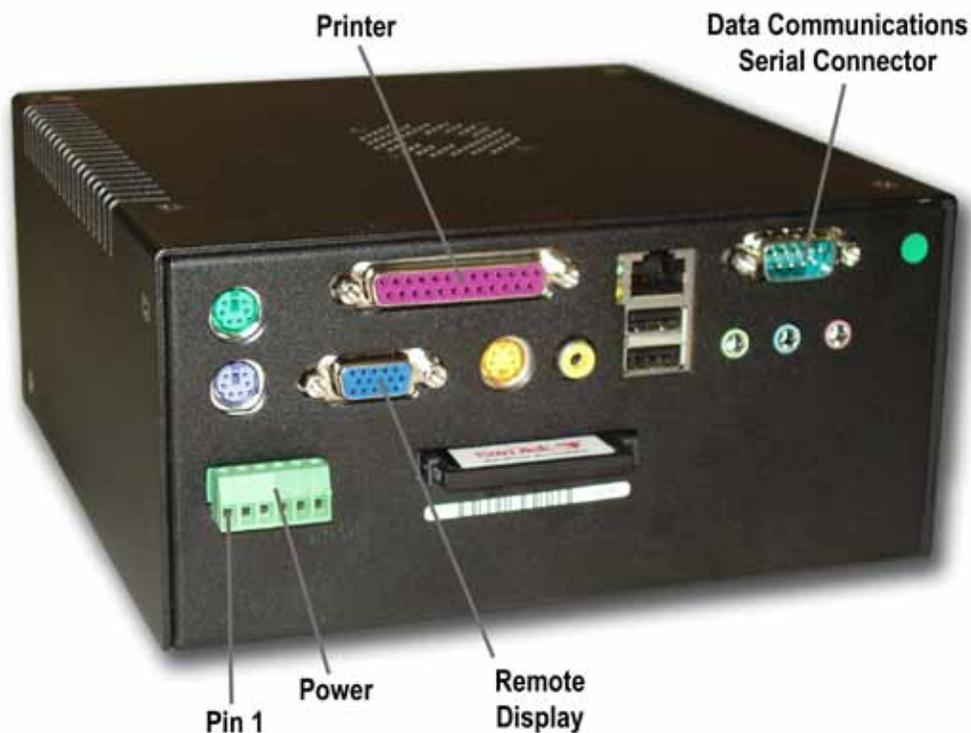

Figure 2. AWOS Net Controller Back Panel Connections
Figure 2 shows the back panel connections for the AWOS Net Controller. The connections used with the standard AWOS Net are:
1. Connect the printer cable to the purple Printer connector on the AWOS Net Controller's back panel (see Figure 2).